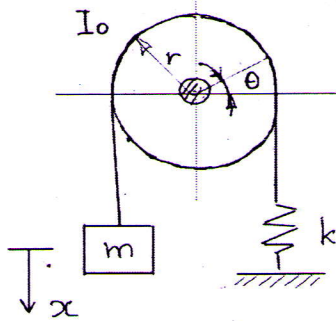

Figure 4
- 9 a) Determine the natural frequency of a spring mass pulley system shown in Fig.4 using energy method.  $I_0$  is the moment of inertia of the pulley about its centroid,  $r$  is its radius,  $m$  is the suspended mass and  $k$  is the stiffness of the spring. (5)